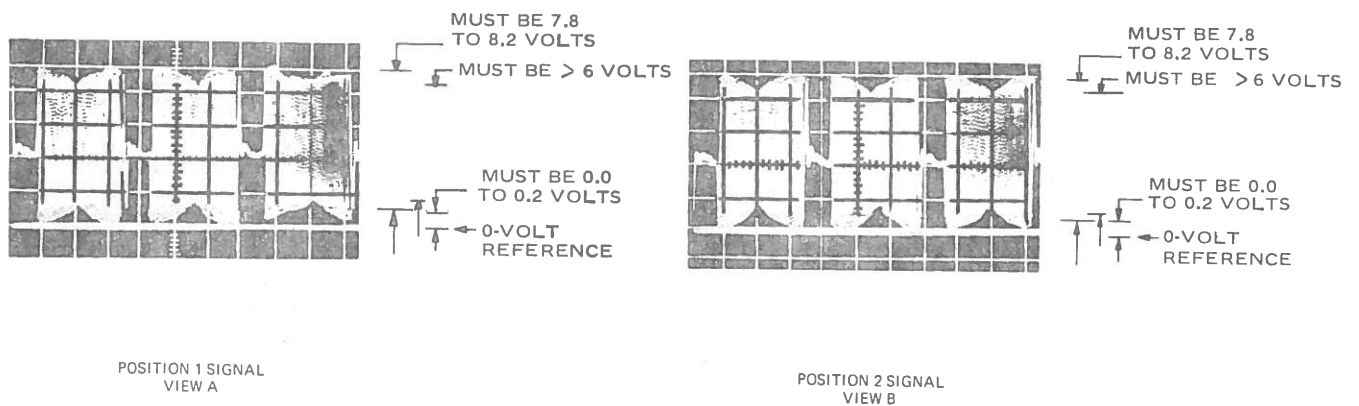

Figure 6-16. Position Signal Magnitude, Cylinders 000-405 Seek-Seek
1. Use oscilloscope setup of 6.11.2 (1) except for step d; position TIME/DIV to 20 ms (calibrated).
3. Observe scope pattern for position 1 and 2 signals for following conditions. See figure 6-16.